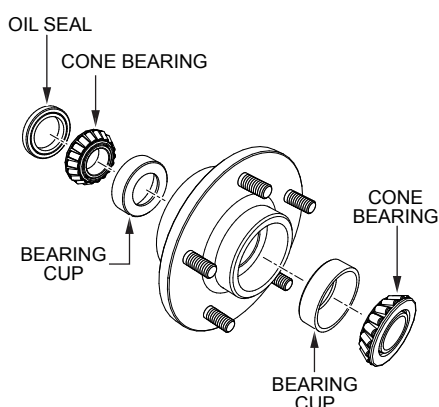

Figure 40. Wheel Hub and Bearings
1. After **every 3 months** of operation, remove the hub dust cap and inspect the wheel bearings (Figure 40). Once a year, or when required, disassemble the wheel hubs remove the old grease and repack the bearings forcing grease between rollers, cone and cage with a good grade of high speed wheel bearing grease (never use grease heavier than 265 A.S.T.M. penetration ("No. 2.")).
2. Fill the wheel hub (Figure 40) with grease to the inside diameter of the outer races and also fill the hub grease cap. Reassemble the hub and mount the wheel. Then tighten the adjusting nut, at the same time turn the wheel in both directions, until there is a slight bind to be sure all the bearing surfaces are in contact.